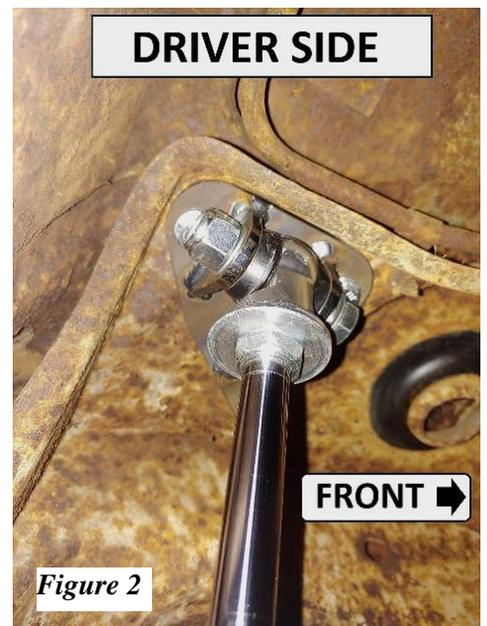

Figure 2
3. Install the upper mounting bracket to the driver and passenger side with supplied 5/16"-18 x 1" hardware with two washers per bolt/nut. **(Figure 2)** The shorter flat edge of the upper bracket will face inboard and the stud of the bracket will sit in the rearward position **(Figure 2)**. With the brackets on the correct side of the car the shock mounting tabs will be slightly leaning towards the rear of the car.. Torque to 178 in.-lb.